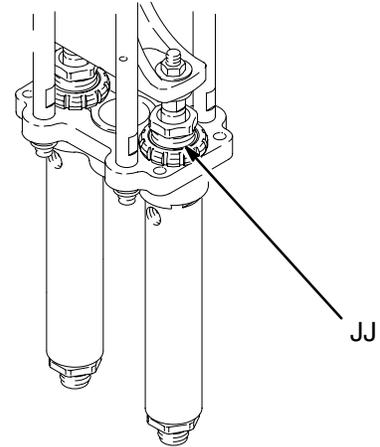

Fig. 19
Keep the throat packing nuts (JJ) filled with appropriate lubricant and check the tightness of the packing nut weekly. See Fig. 19.